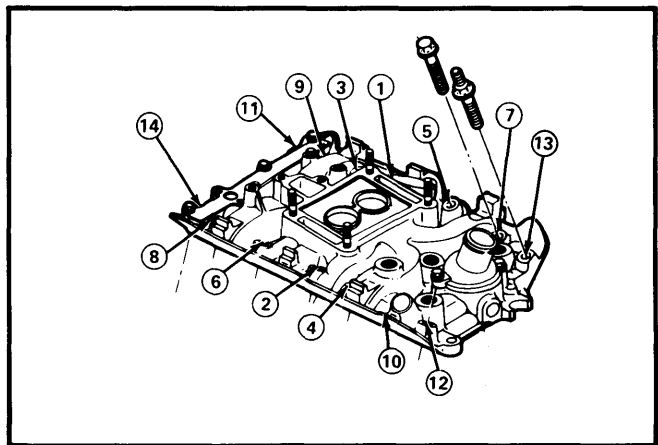

Fig. 1 Intake Manifold Tightening Sequence
3) Carefully lower intake manifold into position using dowel pins as a guide. Apply a thin coat of sealer (D8AZ-19558-A or equivalent) to threads of manifold bolts and underside of bolt heads. Install manifold bolts and tighten in 3 steps. See Fig. 1. Reverse removal procedures to complete installation.